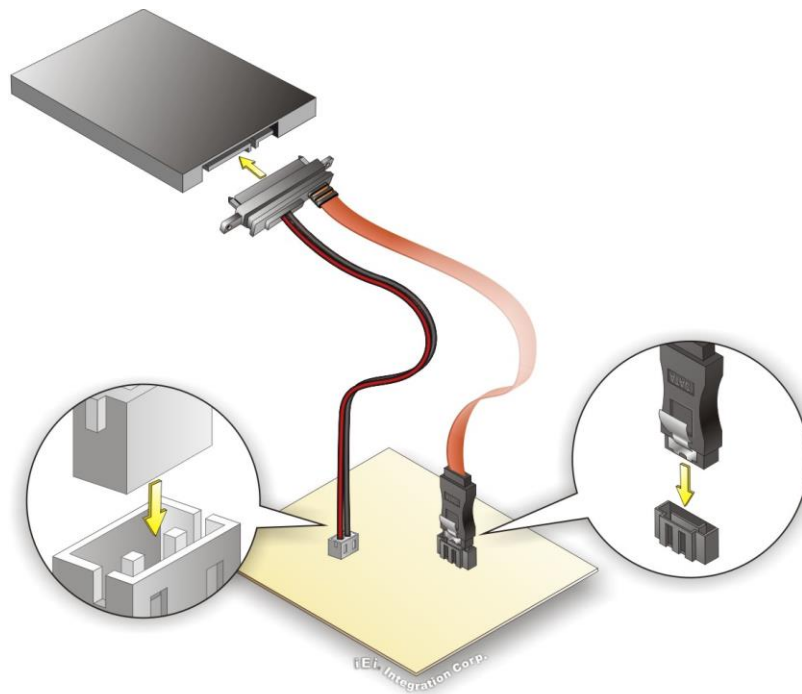

Figure 4-24: SATA Drive Cable Connection
Step 6: Insert the cable connector. Insert the cable connector into the on-board SATA drive connector and the SATA power connector. **See Figure 4-24.**